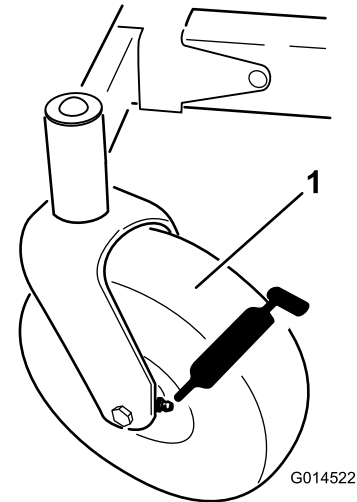
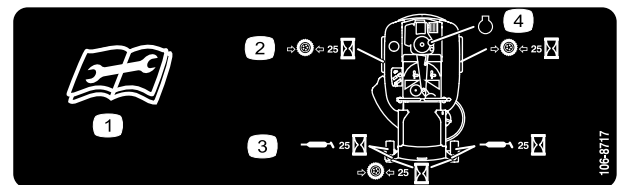

Figure 27
Figure 28
3. Clean the grease fittings (Figure 27 and Figure 28) with a rag. Make sure to scrape any paint off the front of the fitting(s).
4. Connect a grease gun to each fitting (Figure 27 and Figure 28). Pump grease into the fittings until grease begins to ooze out of the bearings.